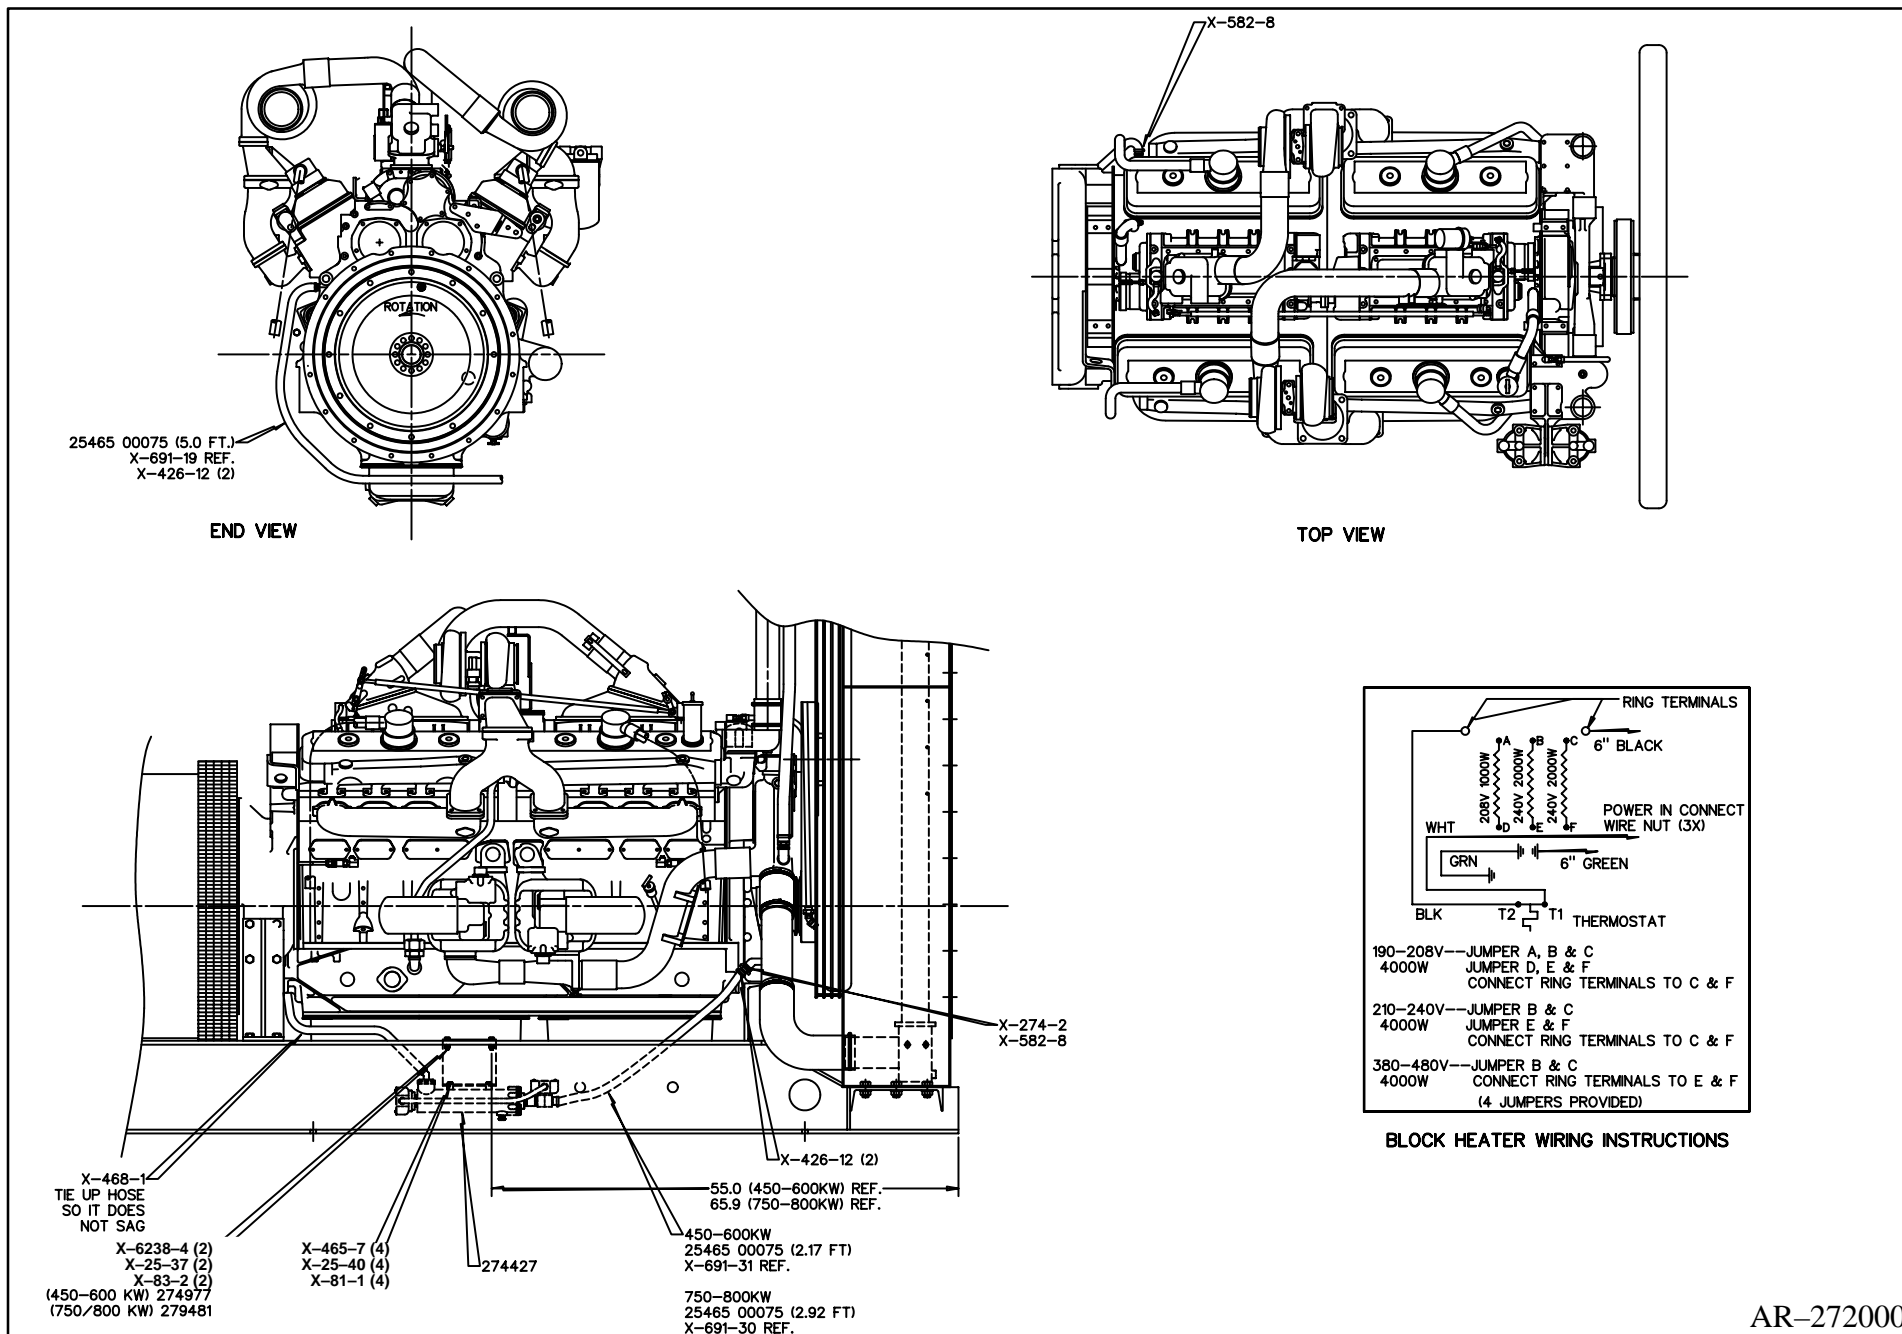

Figure 1. Installing Block Heater Kits
3. Mount 274977 (Kit PA-272964) or 279481 (Kit PA-274979) block heater bracket to skid using two X-6238-4 screws, X-25-37 plain washers, and X-83-2 nuts. See Figure 1 for location. Locate the plain washers with the nuts. Distance from radiator end of skid to first hole is 55 in. (1397 mm) for Kit PA-272964. Distance from radiator end of skid to first hole is 65.9 in. (1674 mm) for Kit PA-274979.
5. Remove pipe plug from engine block located on right side near cylinder head and flywheel (as viewed from the generator end). Remove pipe plug from tube above lower radiator hose. See Figure 1.
10. Determine voltage of power supply and use Figure 1, *block heater wiring instructions* to connect block heater kit. Wiring should be done according to local codes and National Electrical Code (N.E.C.).